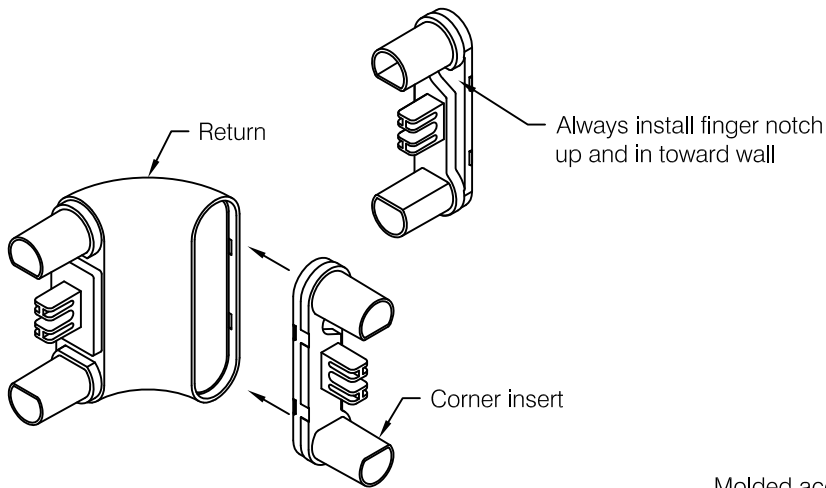

fig 3
**Step 5** Assemble inside and outside corner accessories by snapping corner insert into the molded return, see **fig. 3**. Always install the insert with finger notch up and in toward wall. It may be necessary to reverse the position of the molded return to accomplish the correct insert orientation.